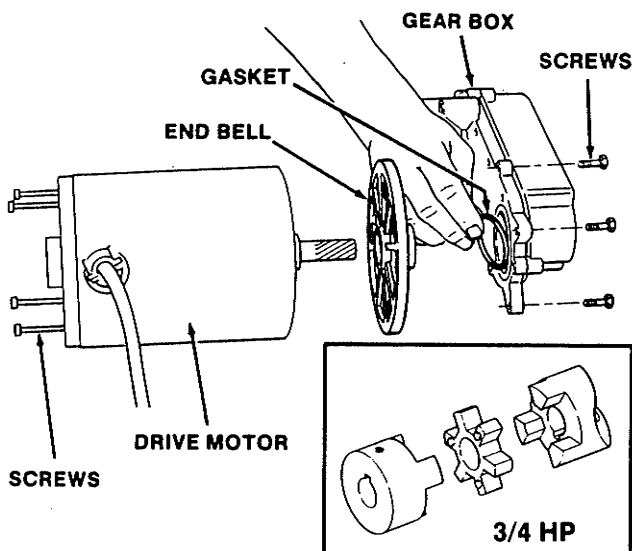

Figure 57. Motor Gear Box Assembly
1. Remove the screws attaching the gear box to the drive motor and remove the drive motor. (See Figure 57.)